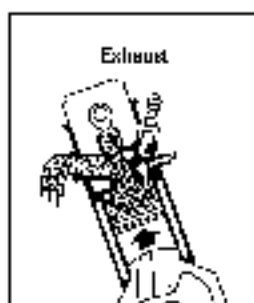

Figure 7-10:
- ✓ **Stroke 4 — Exhaust stroke (see Figure 7-10):** The exhaust valve opens as the piston rises and pushes the burned gases out of the cylinder.